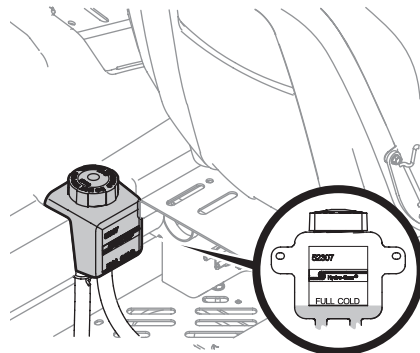

Figure 4-9
- Pivot the operator's seat forward and clean the reservoir cap and the area around the cap to prevent debris from contaminating the transmission oil. See Figure 4-9.
- Turn the reservoir cap counterclockwise to re-move, then check the oil level in the reservoir. Oil should be visible at the bottom of the cup, but the oil level must NOT be above the "FULL COLD" line. See Figure 4-9. DO NOT FILL THE RESERVOIR.